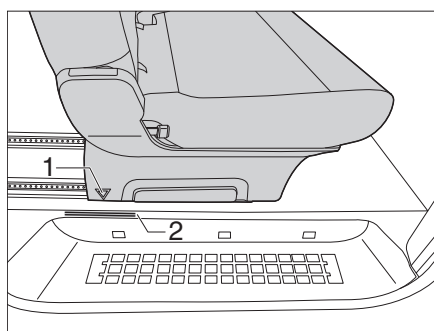

Fig. 19 Bench seat seat-belt position - marking at the entry
The bench seat has to be positioned in the seat-belt position so that passengers can fasten their seat belts. The seat-belt position is identified at the entry by the marking (Fig. 19,2) and by the pointer (Fig. 18,1) that is located under the bench seat.
- Pull the bar (Fig. 18,4) and move the bench seat until the arrow (Fig. 19,1) at the bench seat is located in the area of the marking (Fig. 19,2). The pointer (Fig. 18,1) can now be moved into the green area (Fig. 18,3).